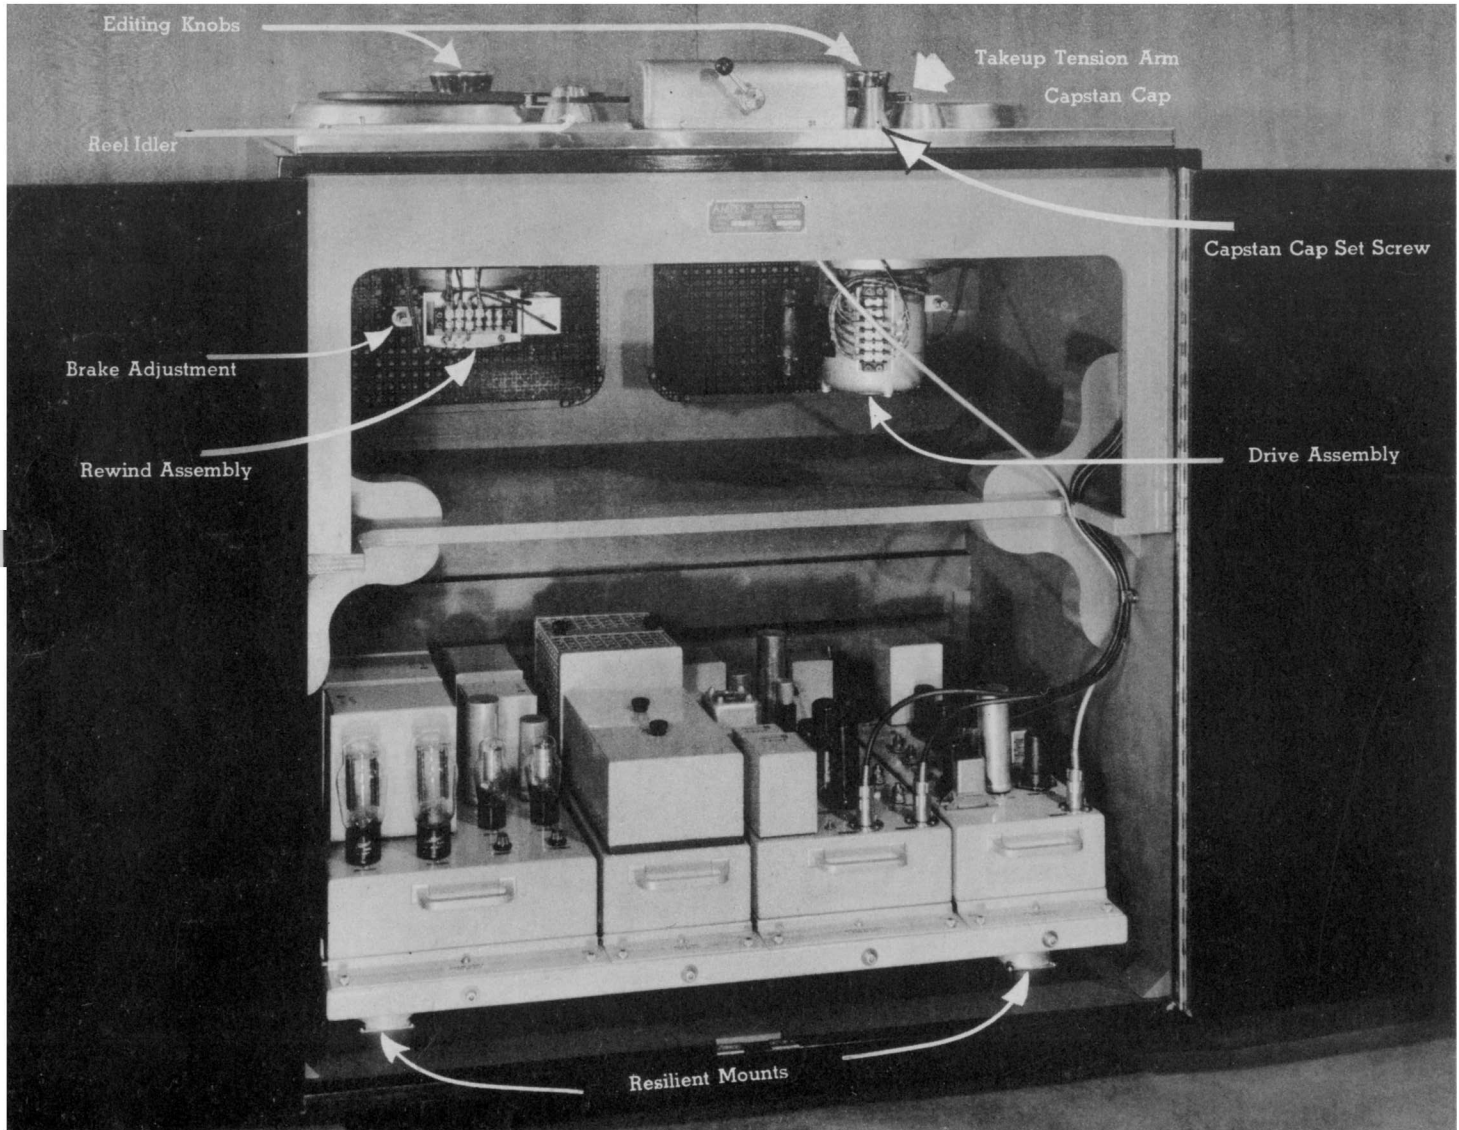

FIGURE 2
2. Capstan Tilt Adjustment. The drive assembly plate is attached to the main base plate at three points, two of the points being anchored on spherical surfaces and the third being spring loaded to allow vertical motion. The spring loaded one is the one on the right hand side when facing the drive assembly, and is pointed out in Fig. 2. Turning the locknut on this side adjusts the tilt of the drive assembly. This adjustment has been made to provide optimum tracking of the tape through the drive system. When properly aligned, straight tape should wind in the middle of the reel hub $1/16$ inches above the reel flange. If changes in this adjustment are made, the alignment of the playback head should be re-checked, as the angle at which the tape passes over the playback head may be affected. The record head is not affected by this adjustment.
3. Capstan Idler Pressure Adjustment. The shaft to which the capstan idler arm is attached is held in a clevis below the mounting plate, as may be seen in Fig. 6. Loosening the clevis as shown in Fig. 2 allows the arm to be rotated. To make this adjustment, the idler is held firmly against the capstan at the same time that the solenoid is seated, and the clevis tightened at this point. Care must be taken to insure that the solenoid is seated. On machines of serial numbers 1 to 22, inclusive, the solenoids have a double winding, and seating the solenoid disconnects one of the windings. If the pull-in winding is allowed to remain on, the solenoid will draw excessive current and overheat. The capstan idler must be firmly clamped against the capstan shaft during playing, or the system will be seriously subject to disturbances on the rewind reel, tension arm, or idler.
1. Lubricate capstan shaft bearings by the application of a small Alemite hand gun to the fitting provided (See Fig. 2). Use only Lubriplate No. 105 grease, Fisk Brothers Refining Company, Newark, New Jersey. Pump gun until grease discharge appears at pressure relief hole near Alemite fitting. This procedure applies to all recorders beginning with Serial No. 21. For all recorders with serial numbers preceding No. 21, the capstan shaft bearings are lubricated by filling the oil cup provided with Lubriplate No. 4 Oil, Fisk Brothers Refining Company.